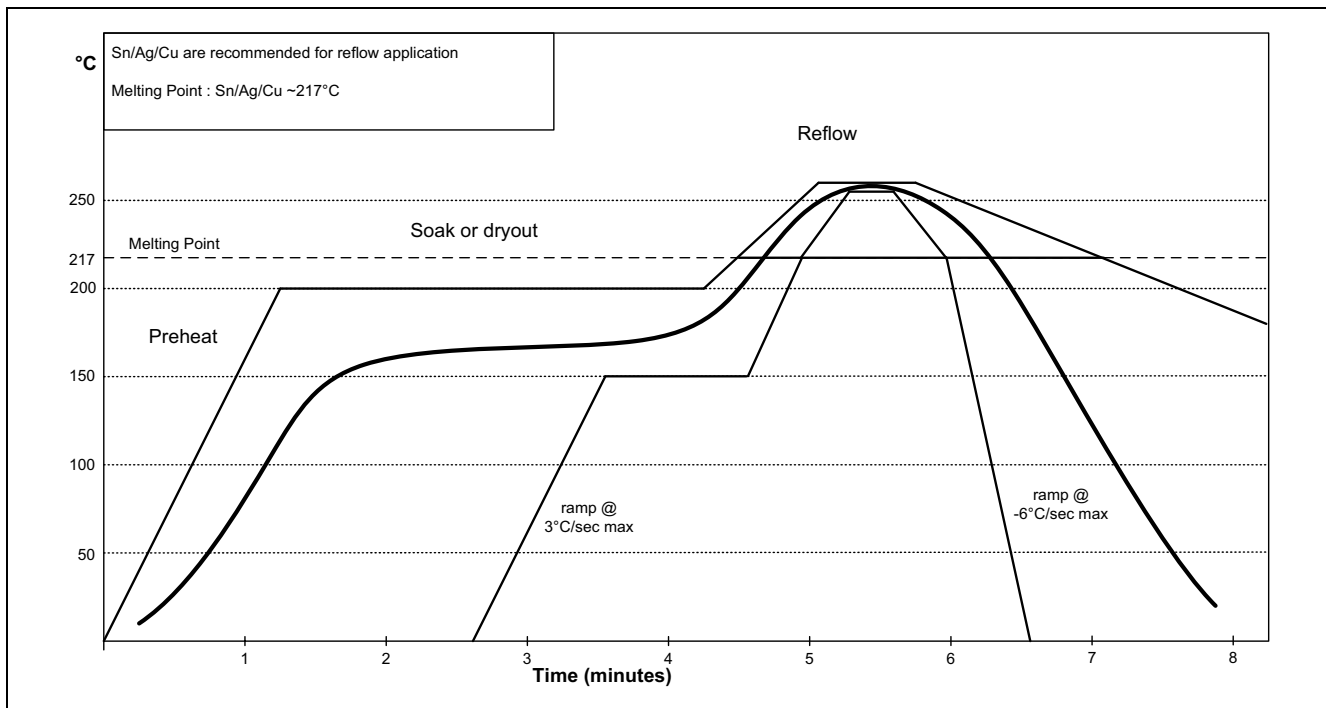

Figure 9: Recommended reflow profile for lead-free solder paste
- Pb-free solder paste shall be used. Sn/Ag/Cu alloys with a melting point of 217°C are recommended. A typical reflow temperature profile is shown in Figure 9. The recommendations given by the solder paste manufacturer should also be followed.